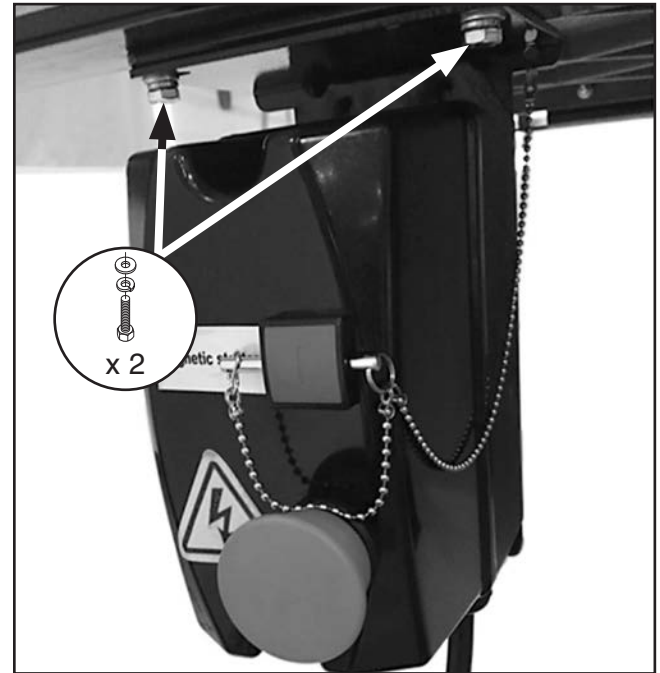

Figure 28. Magnetic switch installed.
- Install the magnetic switch onto the bottom left-hand side of the front rail using (2) M6-1 x 12 hex bolts, 6mm lock washers, and 6mm flat washers, as shown in **Figure 28**.